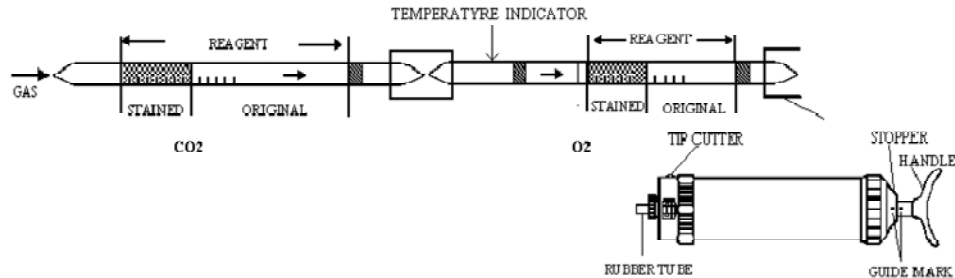

Fig.1
- ① Break both ends of Carbon dioxide detector tube by using the tip cutter and insert the rubber tube into the detector tube end according to the direction of printed arrow mark in Fig.1. (Arrow mark shall point to the pump.)
- ② Heat the temperature indicator of the Oxygen detector tube with a match or cigarette lighter until the indicator is changed to blackish purple from red.
- ③ Break both ends of oxygen detector tube using tip cutter immediately, connect the colour indicator side of the oxygen detector tube with the carbon dioxide detector tube and insert the oxygen detector tube into the rubber tube connector.
- ④ Align the guide marks (red dots) on the piston rod and stopper of the aspirating pump. Pull the pump handle at full stroke until it locks and wait for 8 minutes or until the completion of sampling is confirmed with the flow indicator of the pump (See descriptions about the flow indicator in the instructions of the pump).
- ⑤ On completion of sampling, read the scale at the maximum point of the stained layer.
- ⑥ Temperature correction: